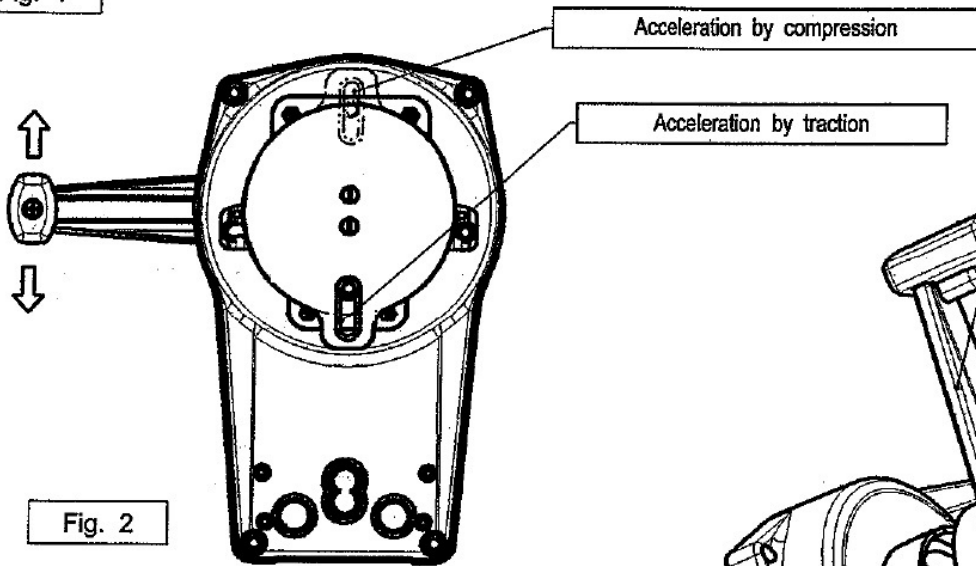

Fig. 2
1. Check in **Fig.2** whether the throttle lever position is correct, according to the type of engine.
Before proceeding with the installation, check that the gear is in neutral position (see **Fig.2**)